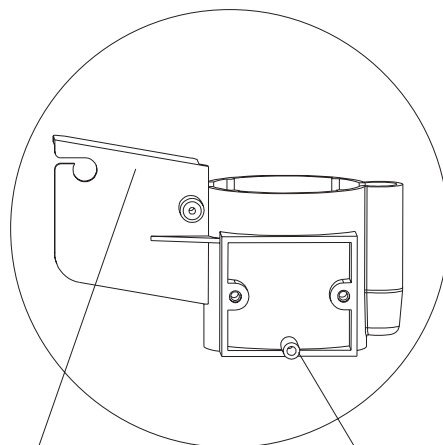

Fig. 2
- Remove the rubber plug from the bottom of the float container. (See Fig. 2)